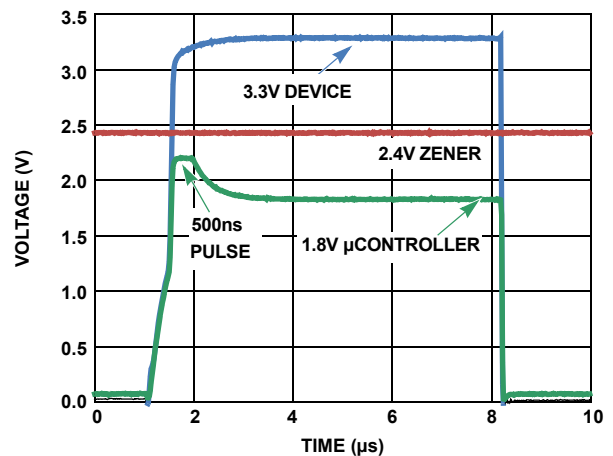

FIGURE 2. 1.8V TO 3.3V LEVEL SHIFTING
3. Providing protection on the 1.8V microcontroller against the potential overcurrent caused by the rise time accelerators on the buffer. A critical concern is the rise time accelerator from the I2C buffer damaging the 1.8V microcontroller. ESD diodes internal to the microcontroller are forward biased at ~0.5V above its supply rail. While the rise time accelerators drive the bus to 2.4V, they are active for only ~500ns (see Figure 2). If overcurrent is a concern, a series resistor on the I2C SDA (Data) and SCL (Clock) lines of 10Ω limits the current to protect the microcontroller. Assuming a worse cast 0V diode conduction, the peak current is limited by the capability of the rise time accelerator circuit on the buffer, in this case 5mA. From a voltage stand-point a 1.8V to 3.3V microcontroller has an absolute maximum voltage in the 3.6V range, much less than the 2.4V from the accelerator drive.